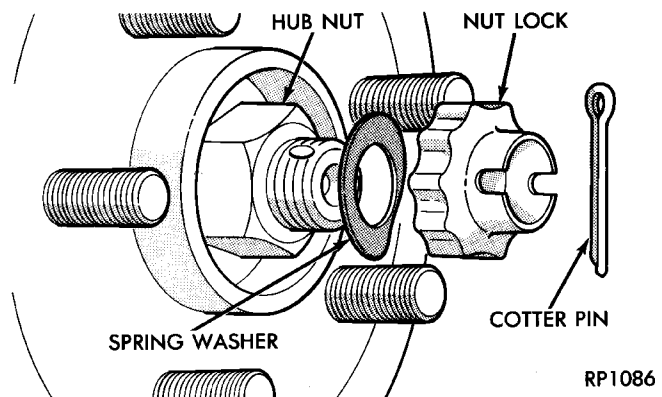

Fig. 3 Cotter Pin, Nut Lock and Spring Washer
(1) Remove cotter pin, nut lock, and spring washer (Fig. 3) from the end of the outer C/V joint stub axle.